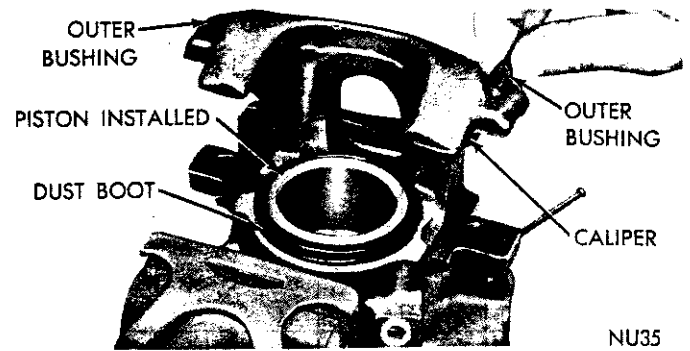

Fig. 18—Installing Outer Bushings
(1) Slowly and carefully push piston back into bore until it is bottomed. Watch for possible reservoir overflow. See Step 9 of "Disc Brake Service Precautions".
(2) Install new inner guide pin bushings in caliper with flanged end on inboard side (Fig. 3). Compress flanges of outboard bushing in fingers and work into position in hole from the outboard side of caliper (Fig. 18).
(5) Install new inner guide pin bushings in caliper with flanged end on inboard side (Fig. 3). Compress flanges of outboard bushing in with fingers and work into position in hole from the outboard side of the caliper (Fig. 18). Press **IN** on bushing, using finger tips or small plastic stick (Fig. 18) until seated. Be sure flanges extend over caliper casting evenly on both sides. Install bleeder screw.